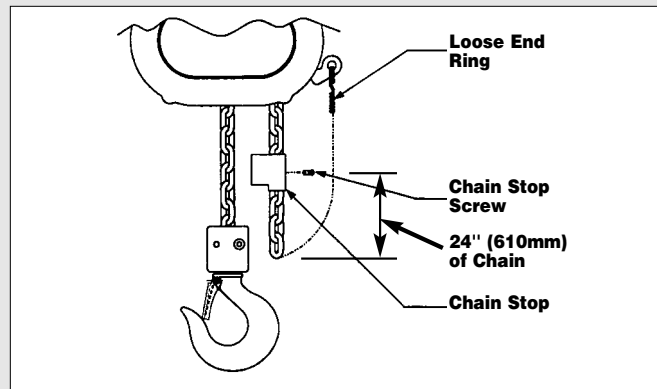

Figure 13B
4. Jog the UP push button while pulling on the free end of wire until the chain comes out of the hoist. Remove the wire and attach the chain stop as shown in Figure 13B. On units with chain container, place chain stop and loose end of chain in chain container. Attach chain container to chain guide.